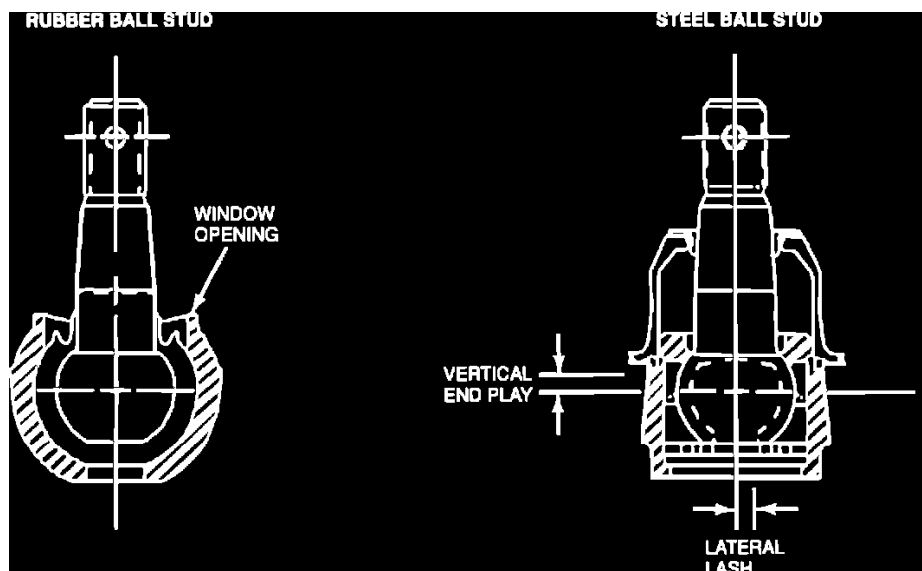

Figure 1
- a. For rubber ball socket (RBS) joints, see if the ball stud makes contact with the window opening in the socket bowl while on the truck, Figure 1. If contact is made with the window opening, replace it with a greaseable steel joint.
- b. For steel (greaseable) joints, measure the lateral (side to side) lash in the joint, Figure 1.
2. With the truck on a hoist, check the steel (greaseable) joints for vertical (up and down) end play by pushing and pulling on the joint, Figure 1. If the end play exceeds .090" (2.38 mm), replace the joint.